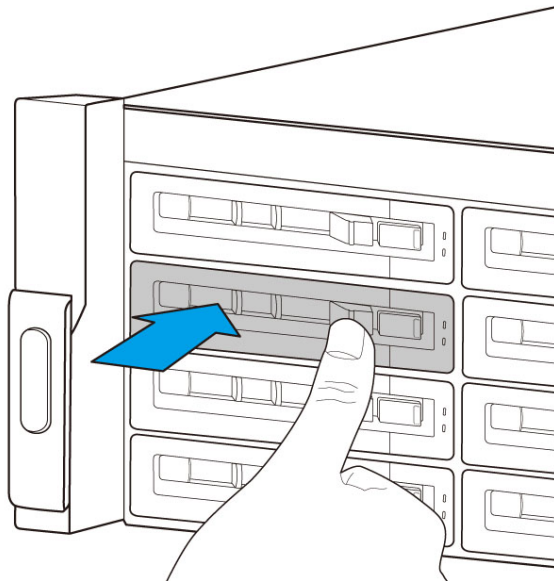

Figure 3-5: HDD Installation (Front Panel)
Step 4: Insert the drive tray into the GRAND-C610-20C all the way to the end. Slide the latch to secure the drive tray. See **Figure 3-5**.